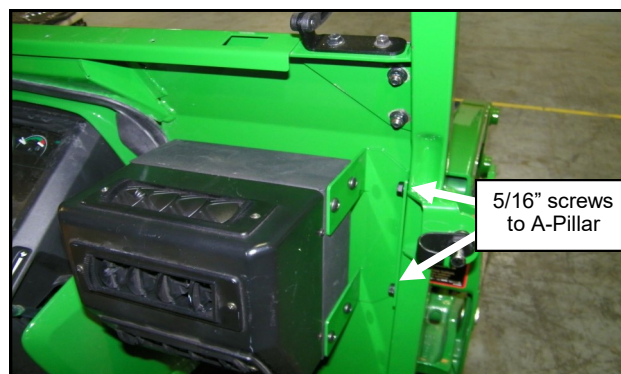

Fig. 19.2 (Install Heater)
Heater optional for cabs with vinyl curtain doors. If installing cab without heater, install 5/16-18 screws to A-Pillar to plug holes as shown in Fig. 19.2 and then proceed to Step 20.
- 19.2** Attach the heater bracket to the right A-Pillar. See Figure 19.2. Tighten hardware.